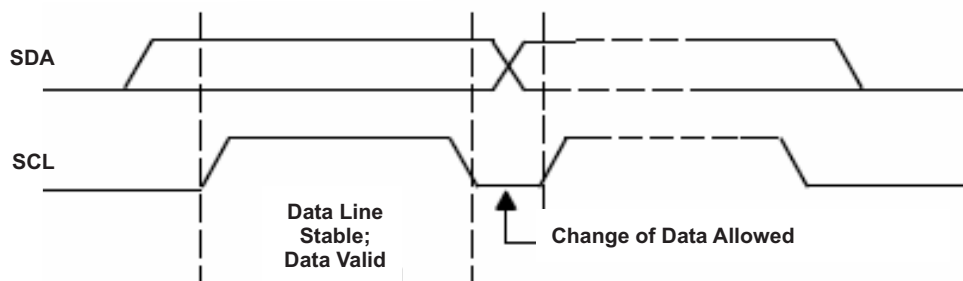
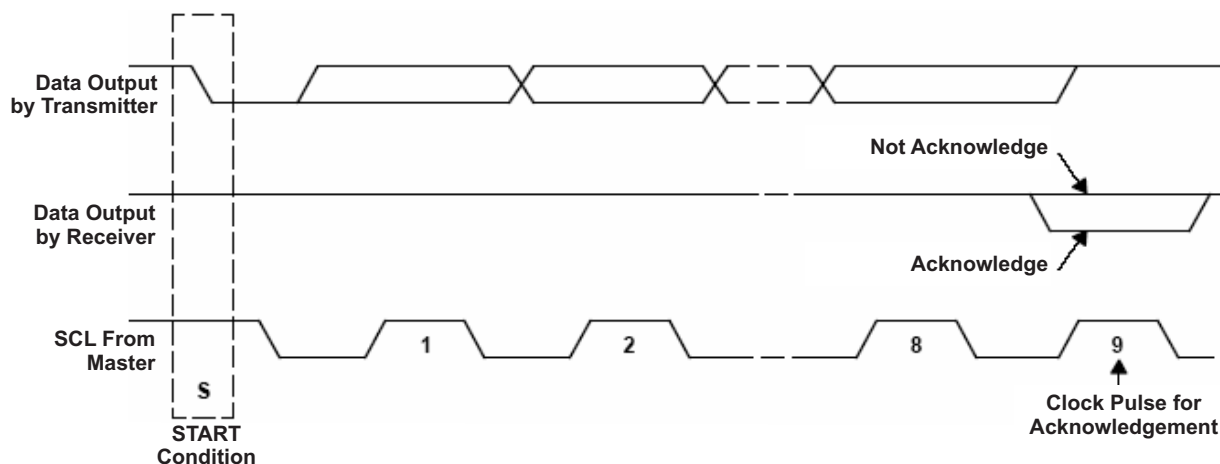

Figure 27. I²C Bit Transfer
Figure 28. I²C Acknowledge
- The *master* initiates data transfer by generating a *start condition*. The *start condition* is when a high-to-low transition occurs on the SDA line while SCL is high, as shown in Figure 28. All I²C-compatible devices should recognize a *start condition*.
- The master then generates the SCL pulses and transmits the 7-bit address and the *read/write direction bit* R/W on the SDA line. During all transmissions, the master ensures that data is *valid*. A *valid data condition* requires the SDA line to be stable during the entire high period of the clock pulse (see Figure 27). All devices recognize the address sent by the master and compare it to their internal fixed addresses. Only the slave device with a matching address generates an *acknowledge* (see Figure 28) by pulling the SDA line low during the entire high period of the ninth SCL cycle. On detecting this acknowledge, the master knows that a communication link with a slave has been established.